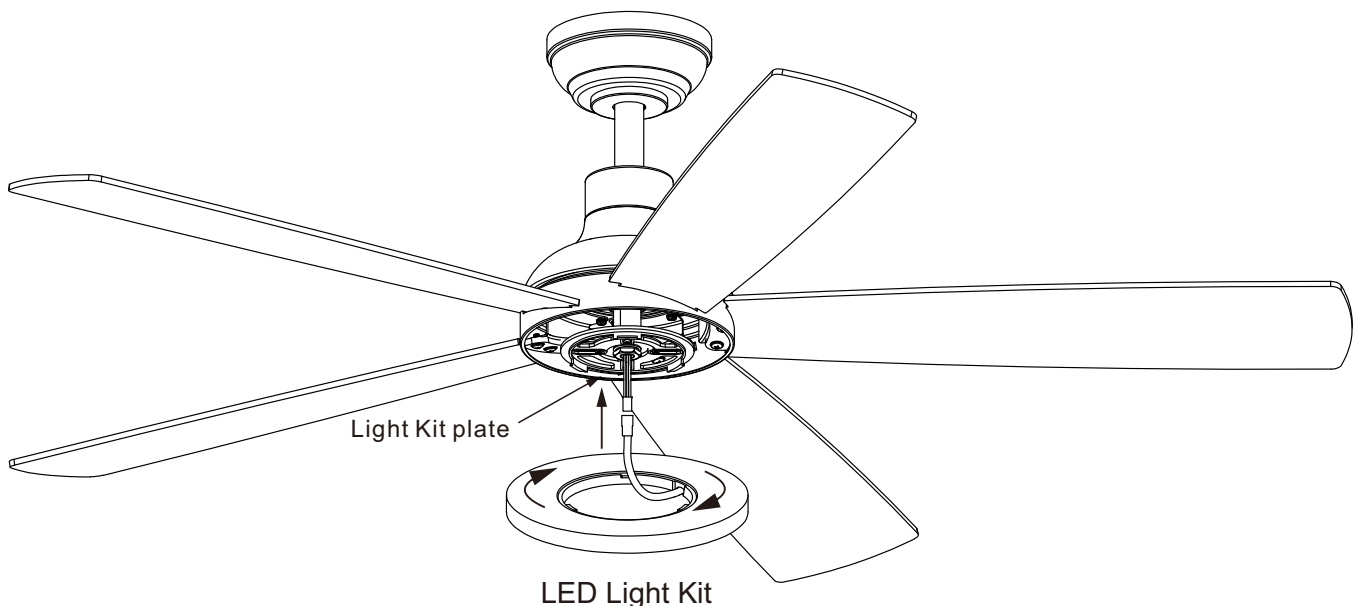

Figure 8
Step 4. Connect the wire plug and the plug on the LED light kit to each other. (Fig.8)
Step 5. Correspond the LED light kit to the bayonet of the mounting plate, tighten and fix them clockwise. (Fig.8)